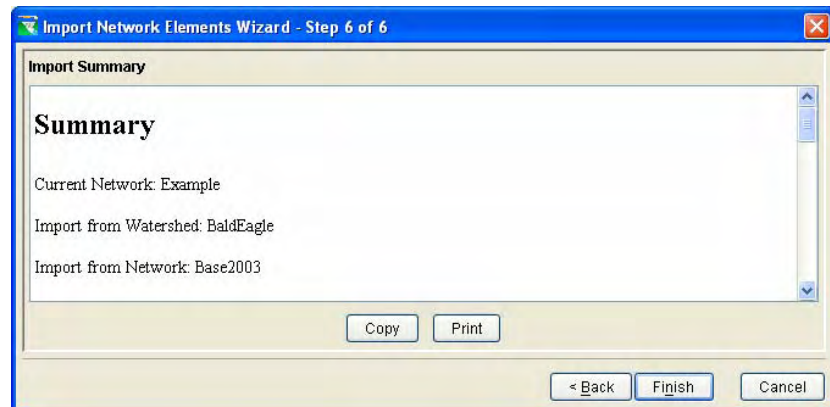

Figure 11.132 Import Network Elements Wizard – Step 6 of 6 (Import Summary)
7. Select **Next** to continue and the **Import Network Elements Wizard – Step 6 of 6** will appear (Figure 11.132). Review all of the information in the import summary.